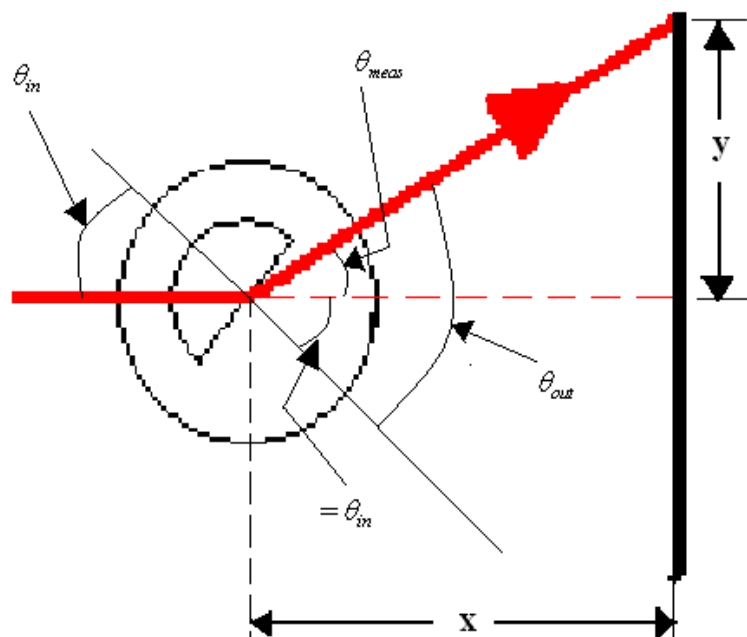

Figure 6.3: Schematic of setup with variable labels.
4. Set the screen about 20 cm beyond the center of the protractor. The center of the protractor is marked as "+". Record this distance (labeled as x in Fig. 6.3) in your spreadsheet.
2. Place a mark on the screen where the light strikes the screen for each of the incident angles. The location of the light on the screen is labeled as y in Fig. 6.3.